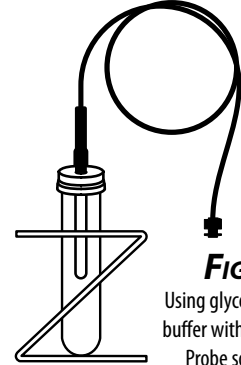

FIGURE 2
4. Insert the probe (TEMP-UL-S, TEMP-L-S, TEMP-H-S) through the hole in the cap and into the bottle until it reaches the probe's black heatshrink tubing. Only the stainless steel portion of the probe should be inside the tube. (Figure 2.)